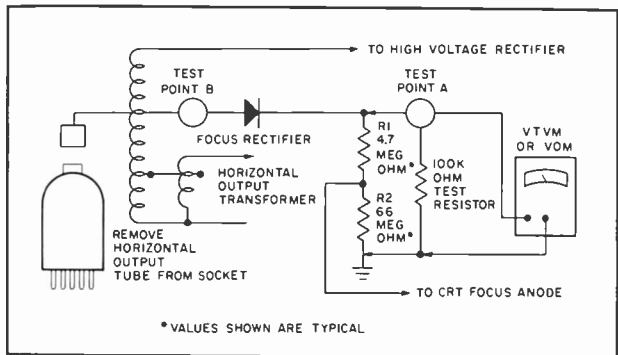

Figure 7—Circuit for Testing Focus Rectifier.
- Step 2—Shunt a 100K ohm (one to two watts) resistor across the divider (resistors R1 and R2 in **Figure 7**) to ground.